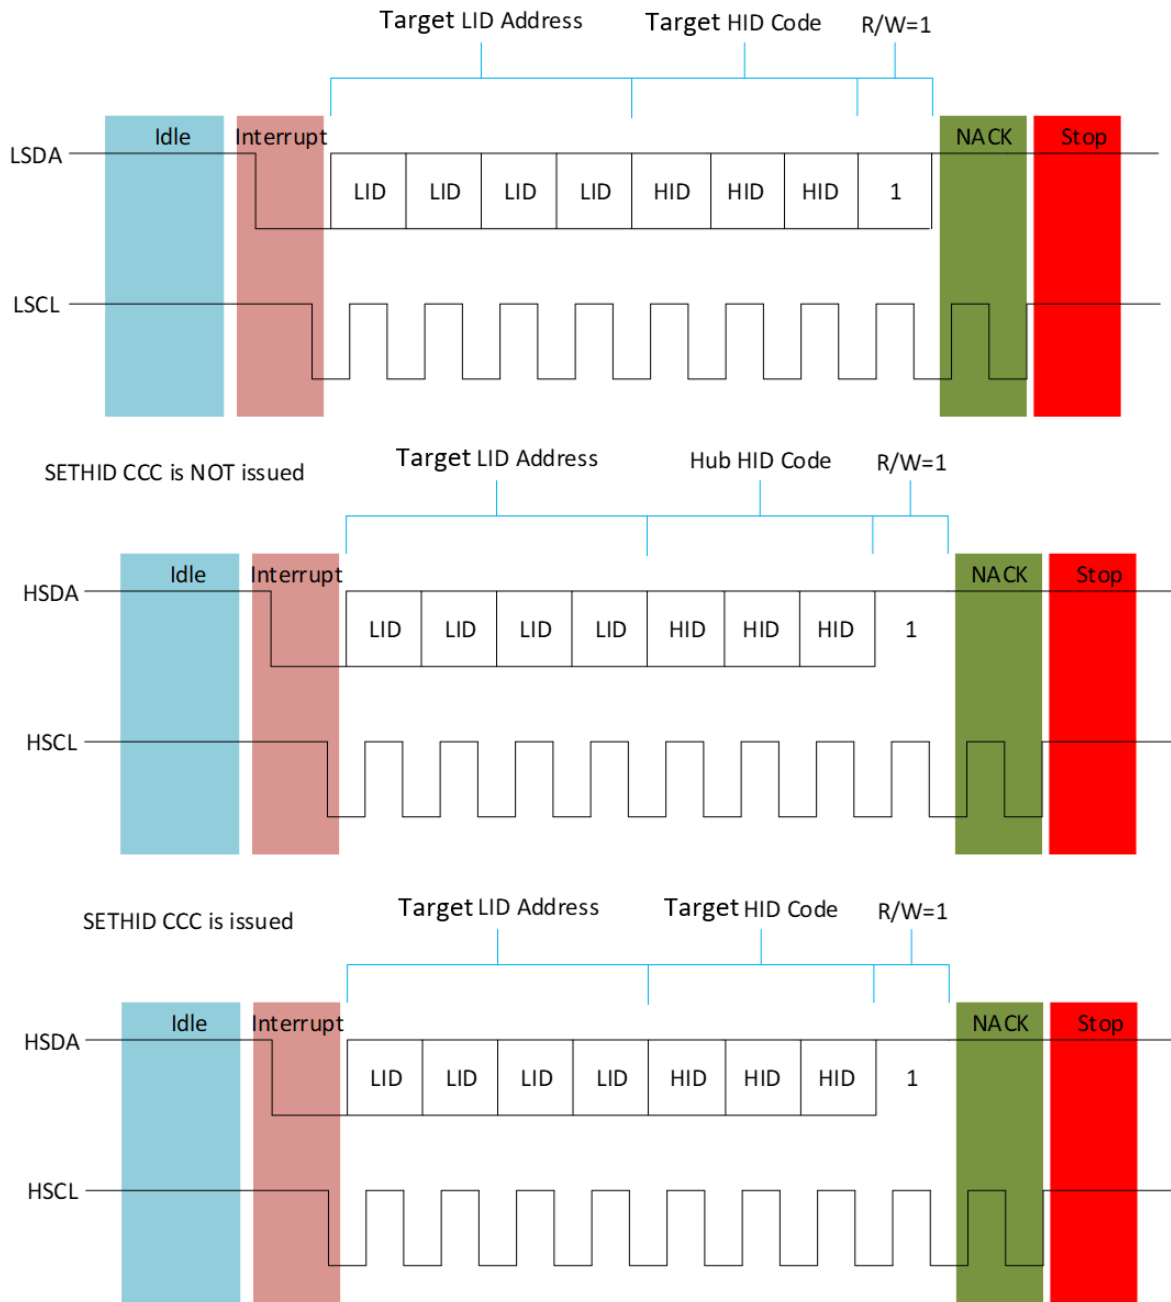

Figure 12 Local Device Interrupt - Host NACK Followed by STOP
- b. The Host sends NACK on the 9th bit as shown in **Figure 12** followed by a STOP command. In this case, the local device does not transmit the IBI payload and waits for the next opportunity to request an interrupt. At this point, though Host sent a NACK, it does have a knowledge of which local device sent the IBI request. The local device retains the IBI status flag and Pending Interrupt Bits [3:0] = '0001'.